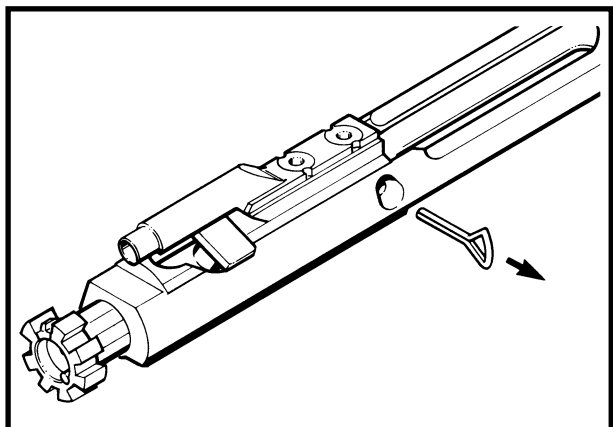

Figure 3-2-28 Removing the Firing Pin Retaining Pin
- a. Using a suitable punch, push the firing pin retaining pin out of the bolt carrier. See Figure 3-2-28;